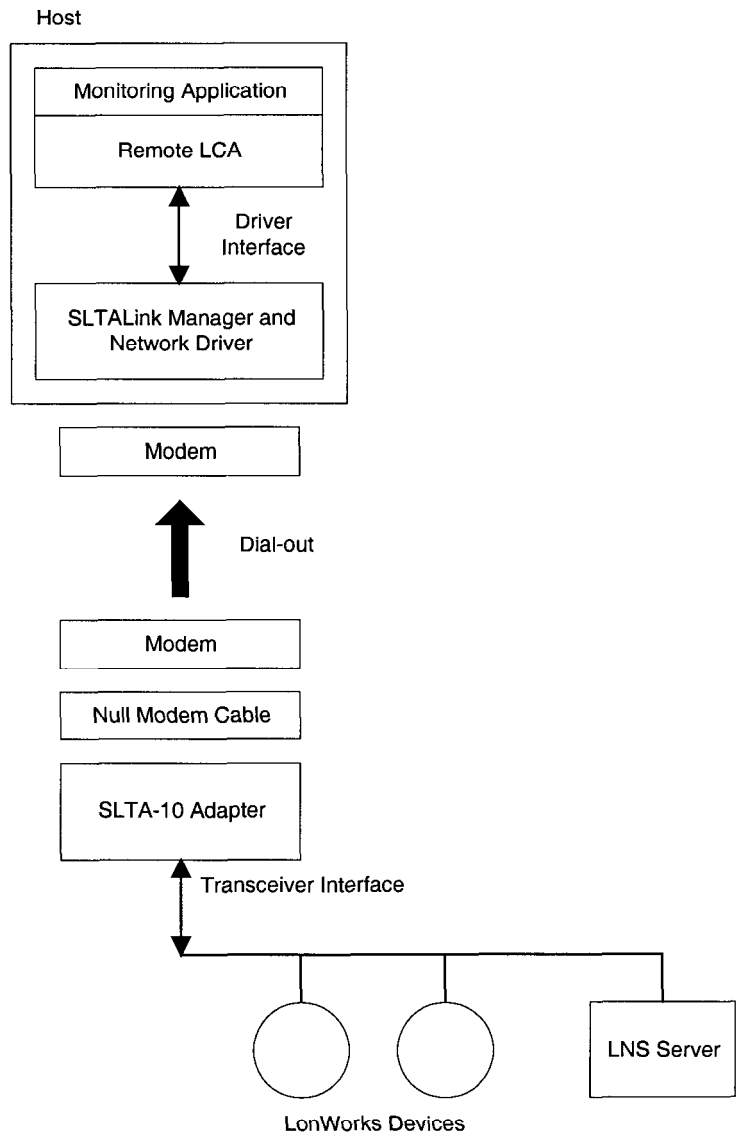

Figure 7.11 Dedicated SLTA-10 Adapter using Dial-out
- When expecting the SLTA-10 Adapter to dial-out from the network to a remote PC, dedicate one SLTA-10 Adapter to dial-out and always have that SLTA-10 Adapter connect to the same remote PC. Make sure that the NSI EEPROM is configured correctly. See figure 7.11.